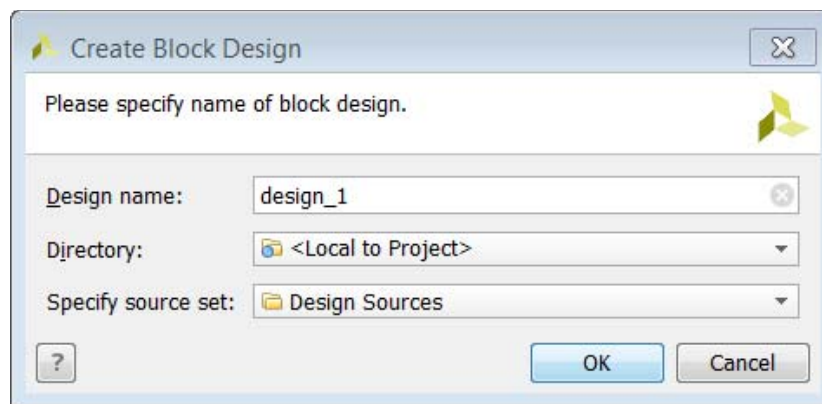

Figure 4-2: Create Block Design Dialog Box
2. Type the Design Name, as shown in Figure 4-2.